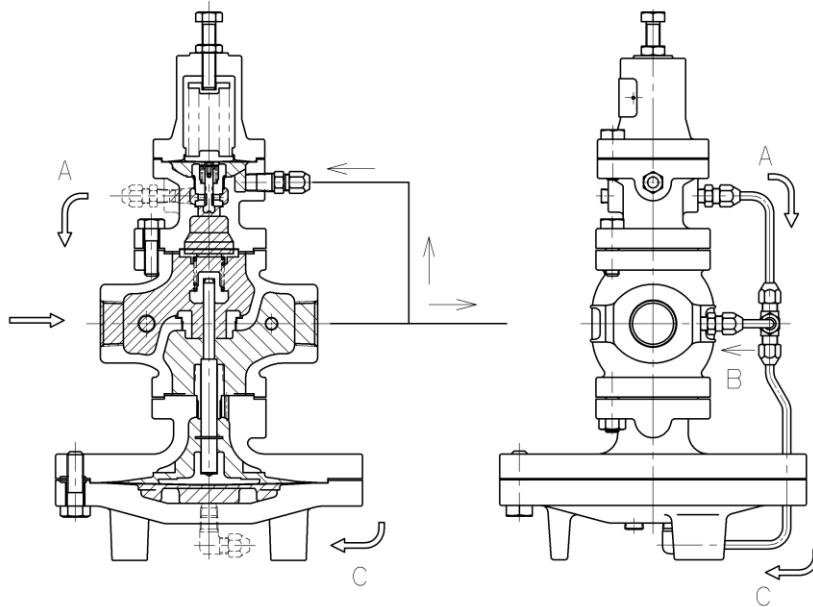

Fig. 4
- (4) The pressure flowing to the outlet side is led to the pilot diaphragm chamber [23-1] via the sensing pipe. The pilot diaphragm receives the reduced pressure to be balanced with the load of the adjusting spring [24]. The pilot valve travel is controlled by the spring load and pressure applied to the pilot diaphragm due to variations in reduced pressure. It changes the flow rate of fluid through the main diaphragm chamber, which controls the main valve travel to obtain appropriate reduced pressure (see Fig. 4 below).